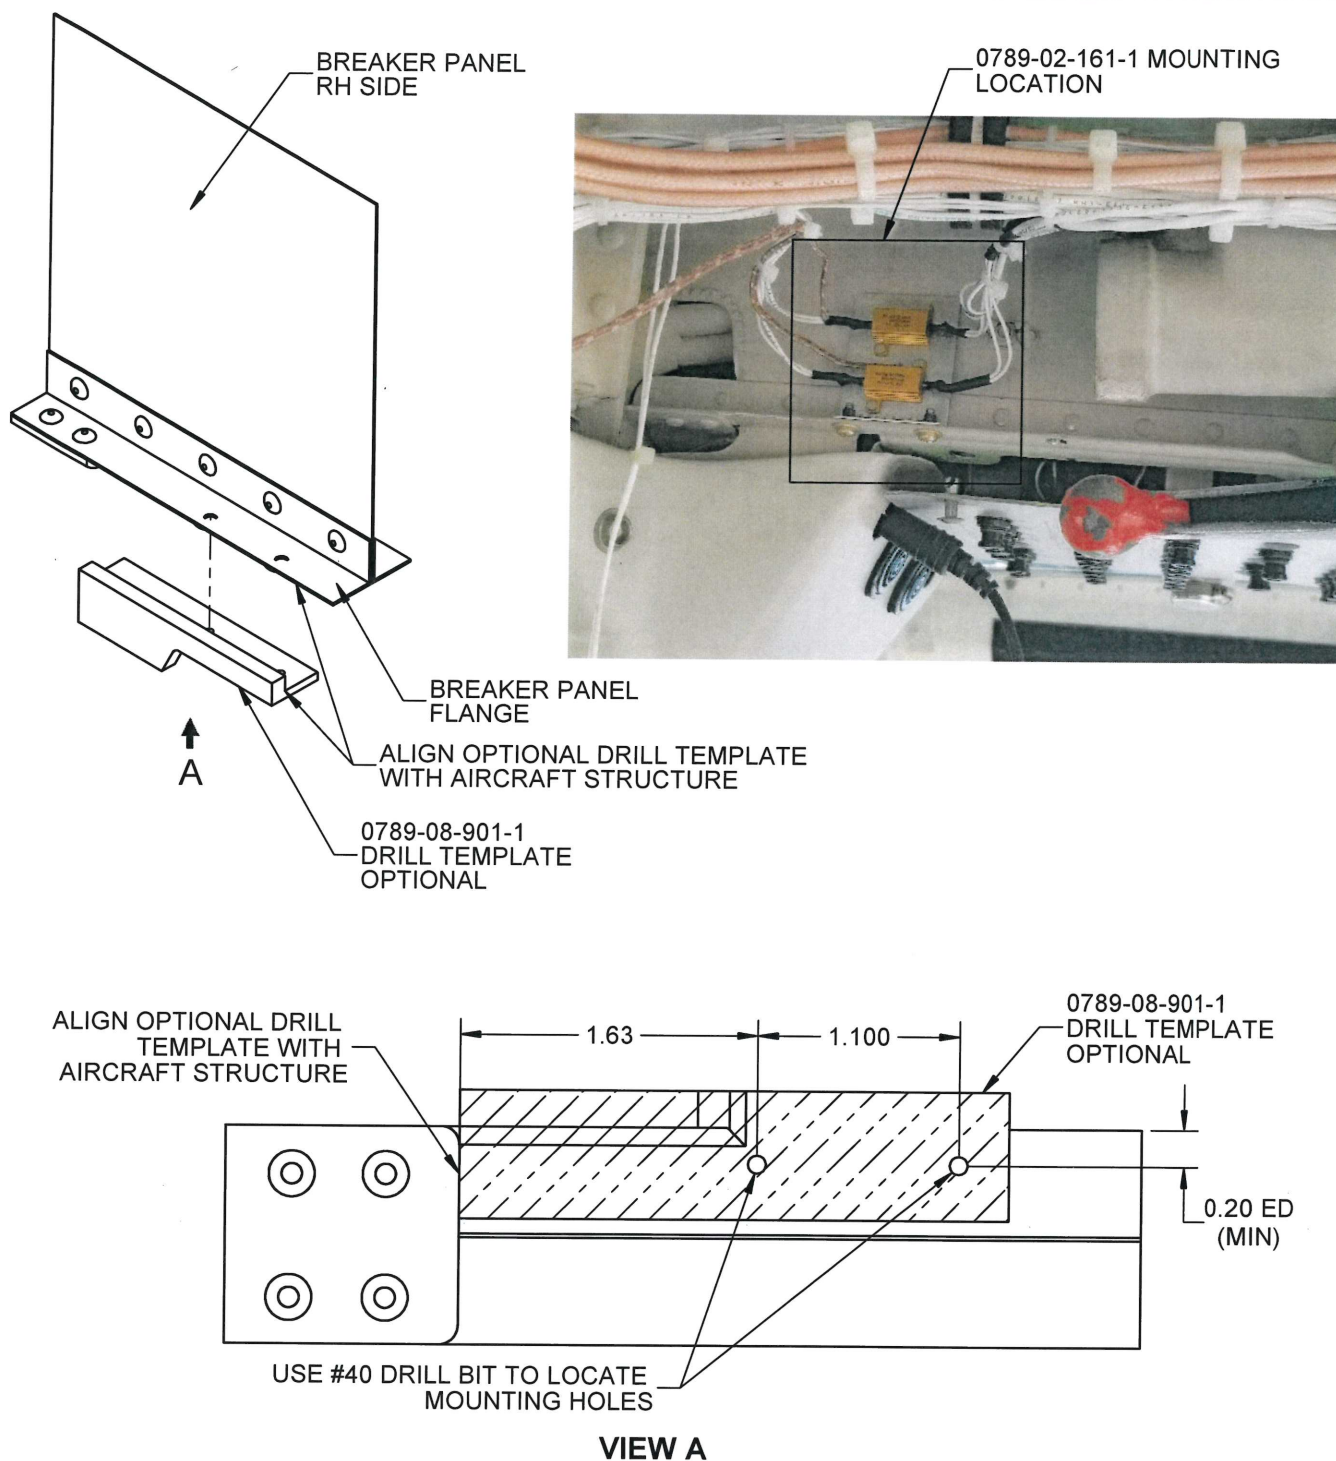

FIGURE 3: 0789-02-161-1 MOUNTING HOLE LOCATION
3. Gain access to the new 4962-R3/-R4 resistor location on the right side (pilot) of the circuit breaker panel by removing the right side (pilot) headliner, as shown in Figure 3, IAW BHT-407-MM.
4. Locate mounting holes (the included 0789-08-901-1 Drill Template may be used to help locate), as shown in Figure 3. Drill through the breaker panel flange with the included #40 drill bit (2 places) and open the holes using the included #27 drill bit. Maintain 0.20 in edge distance. Debur the holes.